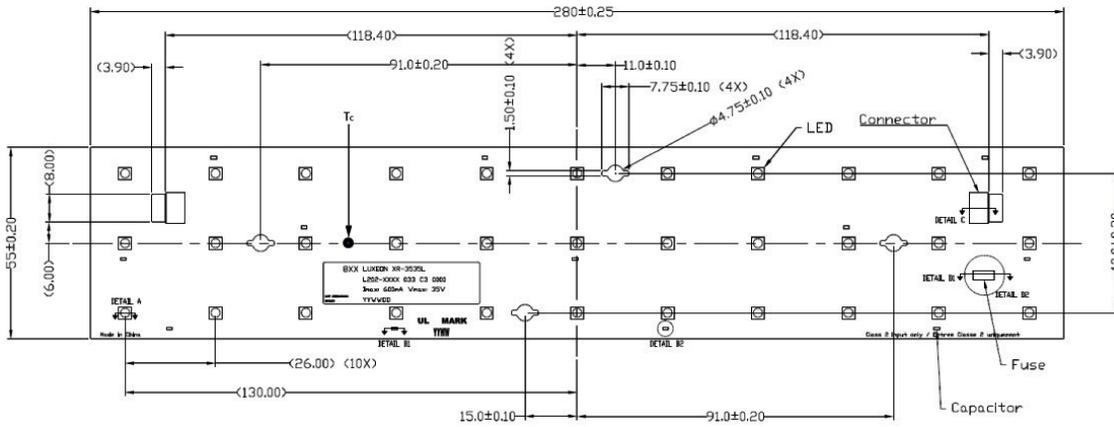

Figure 4: Mechanical dimensions for L202 – xxxx033C30000, outline, screw hole and LED pitch.
- Notes for Figures 4, 5 and 6: